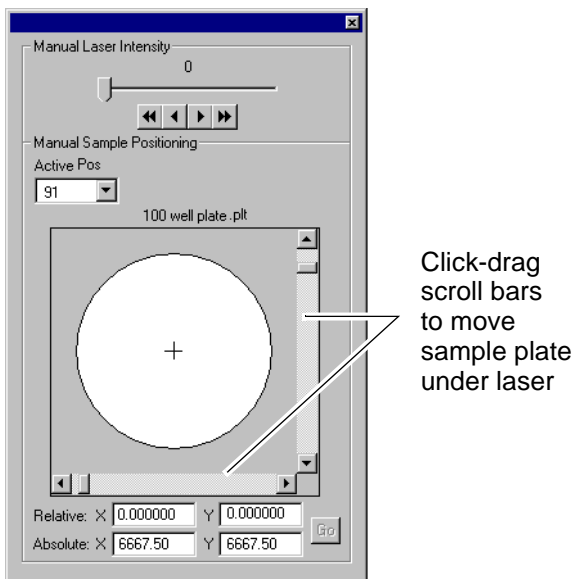

Figure 4-6 Manual Laser/Sample Positioning Control Page (Sample View)
3. From the Sample Plate menu, select **Sample View** to display an expanded view of the selected sample position (Figure 4-6).
- Click-drag scroll bars in the Sample View of Manual Laser/Sample Positioning control page (see Figure 4-6 on page 4-9)